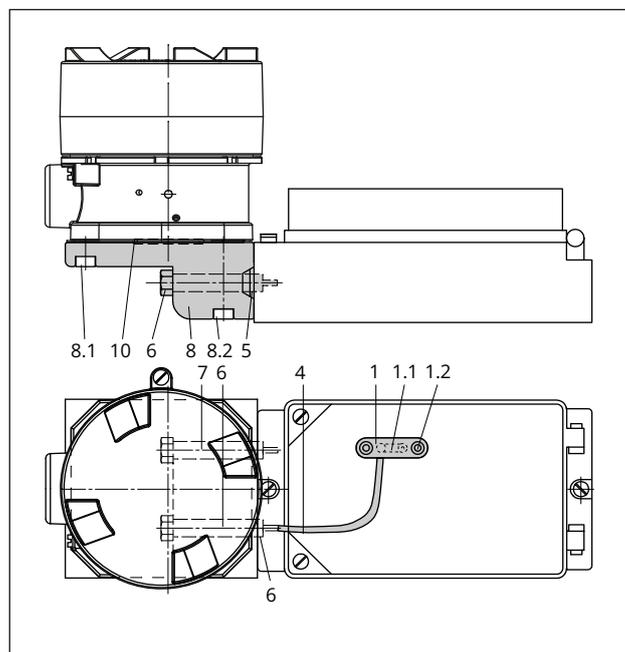
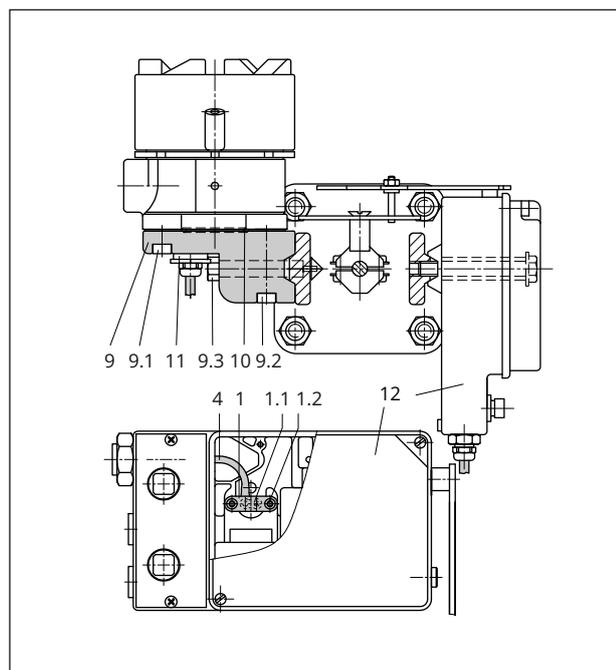
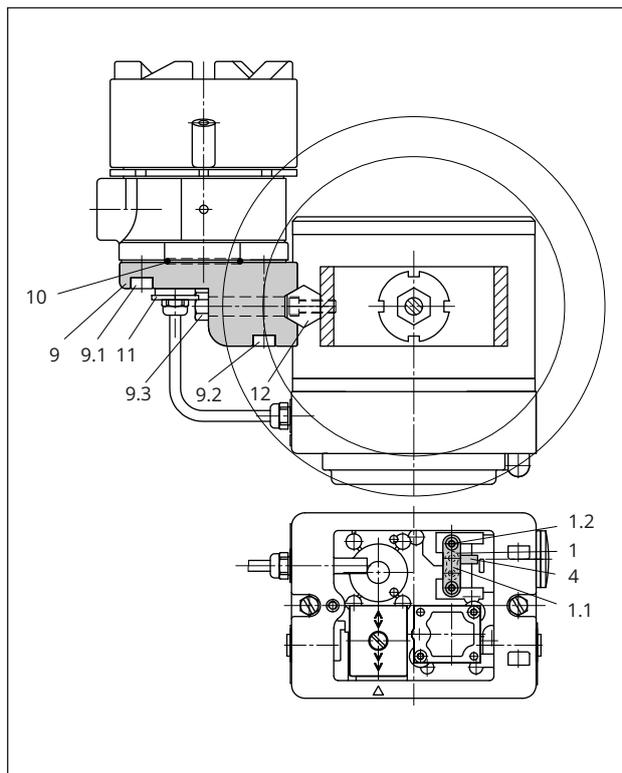

Fig. 15: Direct attachment to Type 3766 Positioner
Fig. 16: NAMUR attachment to valve with Type 4765 Positioner
Fig. 17: Attachment to micro-flow valve with Type 3760 Positioner · Positioner open
For direct attachment to the Type 3766-000 Positioner (see Fig. 15), the converter is connected using the hollow screw with grommet (6) and threaded bushing (5). The second screw (7) is used to vent the converter over the positioner housing. Before attaching the connecting piece (8) to the positioner, remove the M20 screw plug and the connecting nipple (input signal).
Type 4765 and Type 3760 Positioners (see Fig. 16 and Fig. 17): The ⅛ NPT threaded connection of the connecting piece (9) needs to be fitted with a suitable cable gland and must be connected to the input connection (input signal 27) of the positioner using a pipe or hose.
Plug on silicone hose (4, see Fig. 15 and Fig. 16).
Place on cap (4, see Fig. 17).